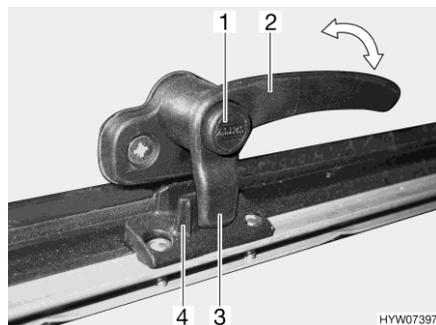
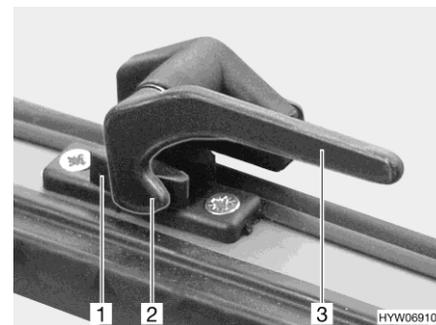

Fig. 93 Catch lever with safety knob in "closed" position
Fig. 94 Catch lever in "closed" position
- Press and hold the security button (Fig. 93,1), if present.
- Turn all catch levers (Fig. 93,2 or Fig. 94,3) a quarter turn towards the centre of the skylight.
- Turn all catch levers (Fig. 93,2 or Fig. 94,3) a quarter turn towards the frame. The locking catch (Fig. 93, 3 or Fig. 94,2) is located on the inside of the skylight lock (Fig. 93,4 or Fig. 94,1).
- "Firmly closed" (Fig. 93 and Fig. 94)